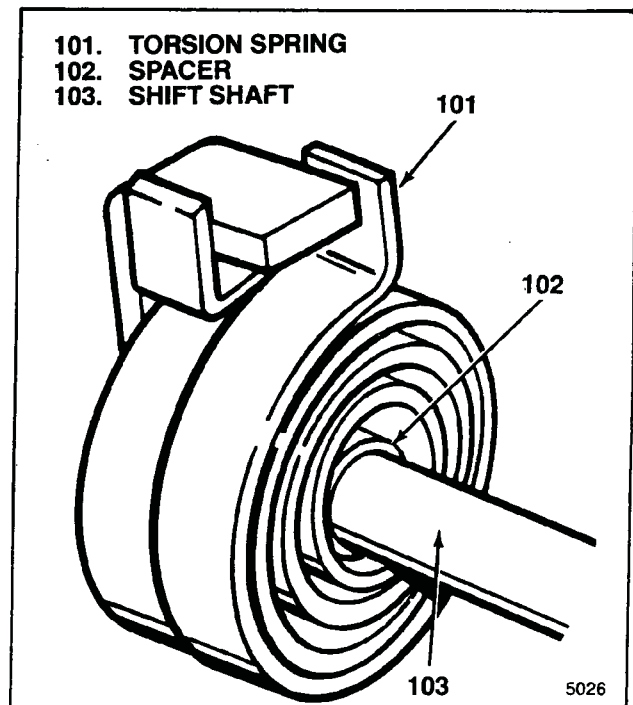

Figure 5-6. Completing Spring Assembly
- Push torsion spring (101) and spacer (102) together back as far as they will go (see figure 5-6).
- Slide electric shift cam (100) onto shift shaft (103), drive tang on cam first. Position drive tang on